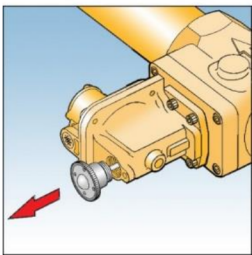

Fig. 9
17. Re-cock OPSS device by unscrewing reset spindle end cap and firmly pull. Hold in this position until the outlet pipework is fully pressurized, then release reset spindle end cap gently. Re-screw reset spindle end cap into body. See Fig. 9.
25. Re-cock UPSS device by unscrewing reset spindle end cap and firmly pull. Hold in this position until the outlet pipework is fully pressurised, then release reset spindle end cap gently. Re-screw reset spindle end cap into body. See Fig. 9.
4. Remove spring and replace with new one. See Fig. 9.